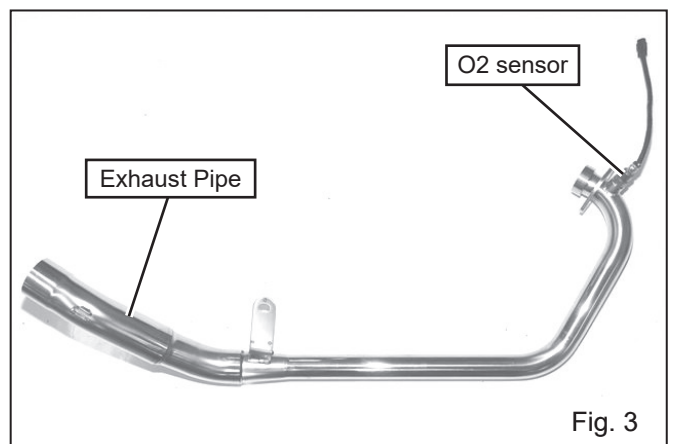

Fig. 3
- 4) Remove O2 sensor from stock exhaust system. Then, install it to Exhaust Pipe and tighten with stated torque (See Fig. 3).